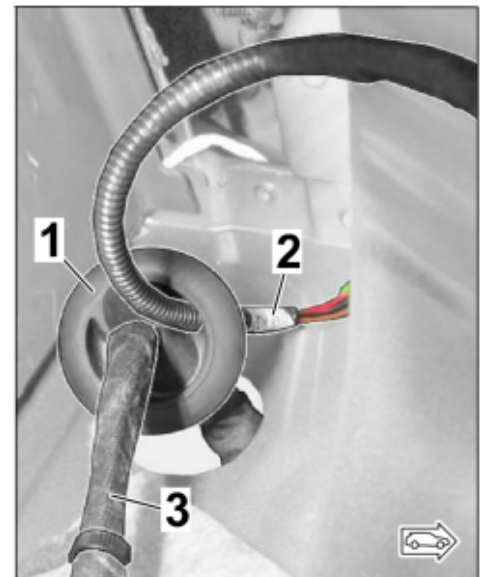

Figure 35
- Guide the new branch for the exhaust flap (left / right) through the neck of the grommet (see also 3.3.6) **OR** through another hole in the grommet collar (⇒ *Figure 35*) **CAREFULLY** to the underside of the grommet.